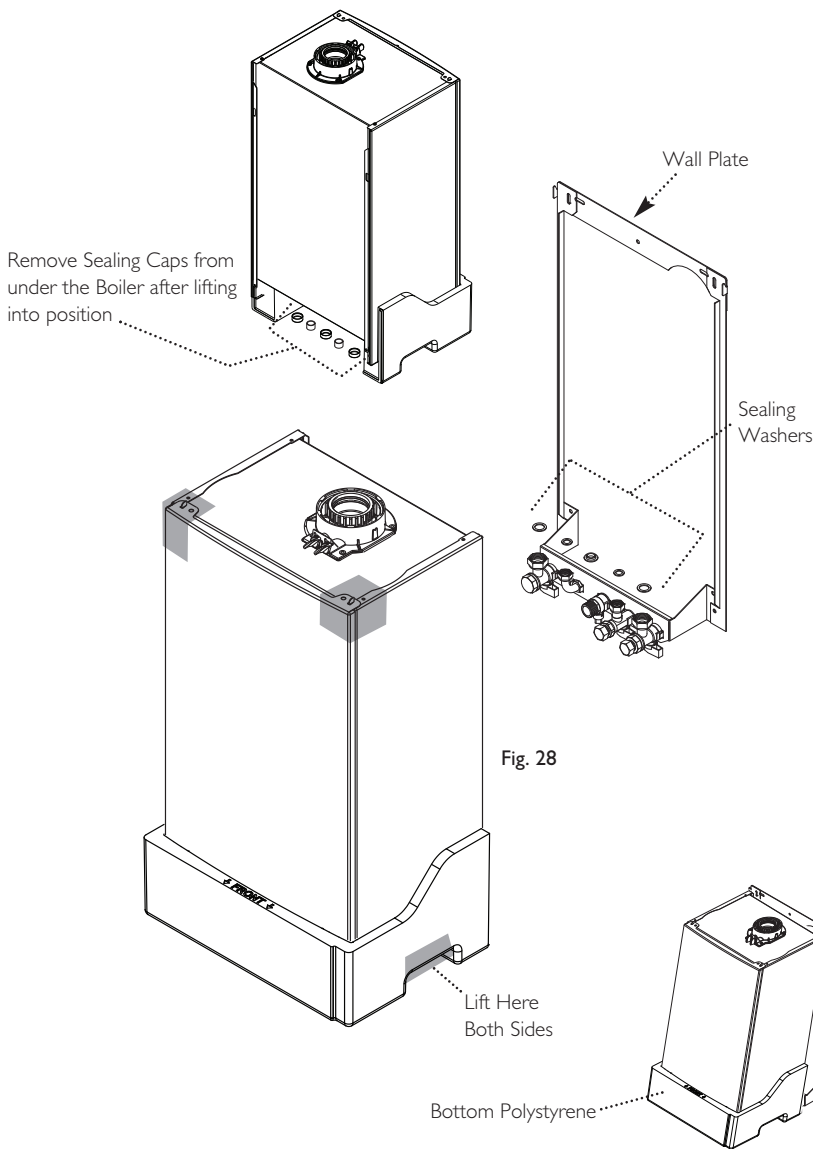

Fig. 28
9.4 Fitting The Boiler (Fig. 28)